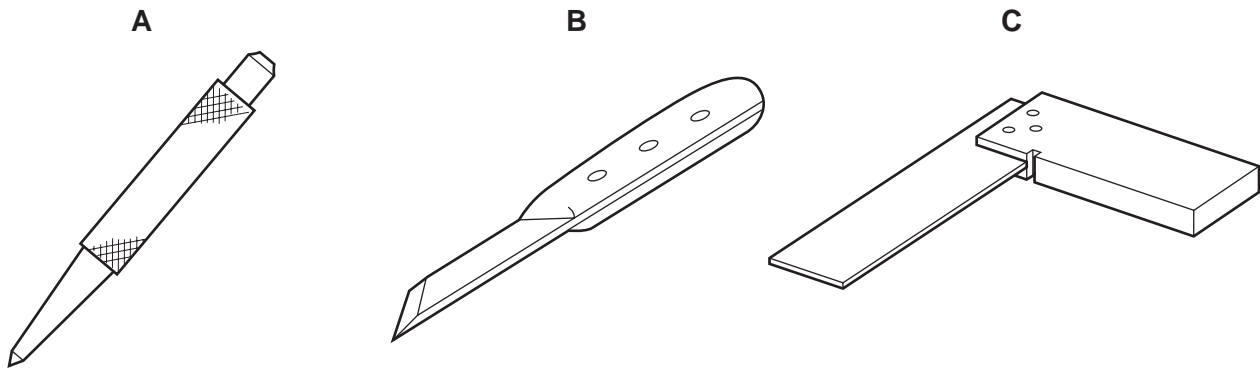

Fig. 5
11 Fig. 5 shows three different marking out tools.
- (a) Identify each tool shown in Fig. 5 and state its purpose. [6]